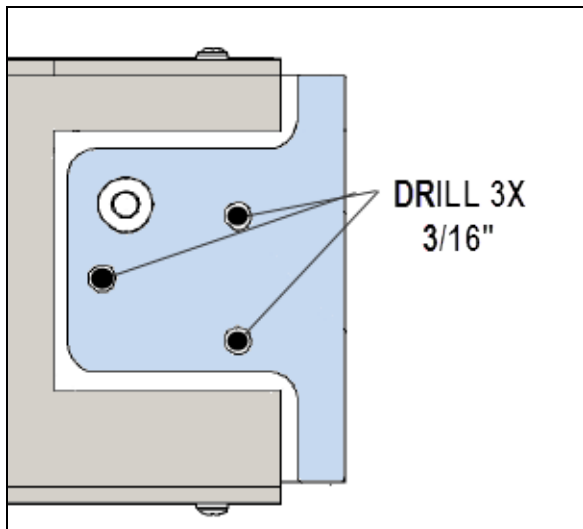

Fig.22
17. Using an electric drill, a 3/16" drill bit and an appropriate drill stop; drill the three (3) holes at the bottom of the condenser. Do not drill deeper than 1/4" (Fig.22 & 23).